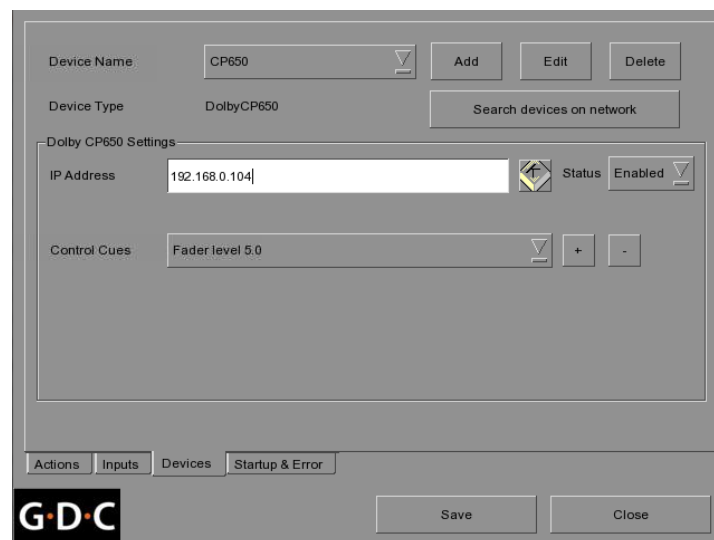

Figure 61 Automation settings for Dolby CP650 device
3. Enter the IP address of the Dolby CP650 device (see Figure 61).